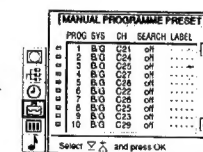

Fig. 22
- Select »Manual Programme Preset« with Δ or ∇ and press OK. The MANUAL PROGRAMME PRESET menu appears. (See Fig. 22)